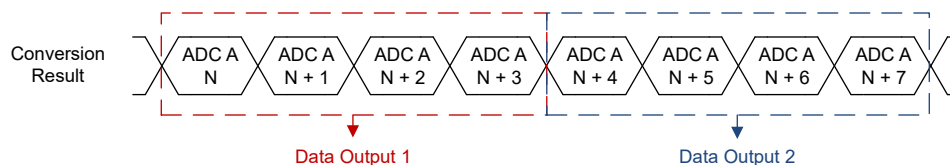

Figure 7-6. Simple Average Data Output
- Simple data average: As shown in Figure 7-6, the ADC output is the average of conversion results in a fixed-size window. This window is defined in the SAVG_MODE field in address 0x0D in register bank 1. The output data rate of the ADC reduces with an increased window size for data averaging. To enable simple data averaging, write 1b to SAVG_EN in address 0x0D and select the window size by writing to SAVG_MODE in address 0x0D.